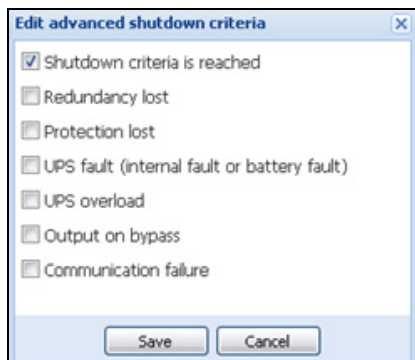

Figure 31. Edit Advanced Shutdown Criteria Dialog Box
- When the network management card or UPS shutdown criteria is reached. This decision is according to the criteria selected in the Edit Advanced Shutdown criteria dialog (see Figure 31).
3. Click **Edit advanced shutdown criteria**. The Edit Advanced Shutdown Criteria dialog box displays (see Figure 31).